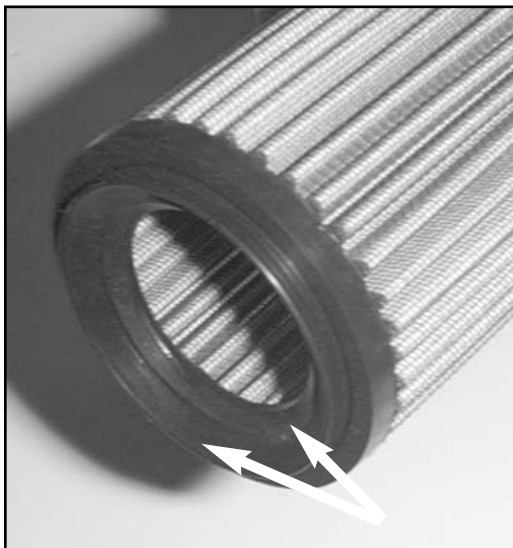

Fig. 1
2. Apply a thin layer of the provided K&N Sealing Grease to the inside of the K&N Filtercharger® and on the sealing lip surface of the K&N Filtercharger®. (Fig. 1)